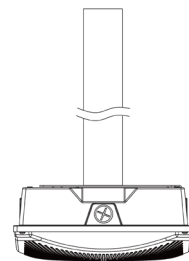

Fig. 3.5
5. Install the conduit to the luminaire and tighten it (Fig 3.5).